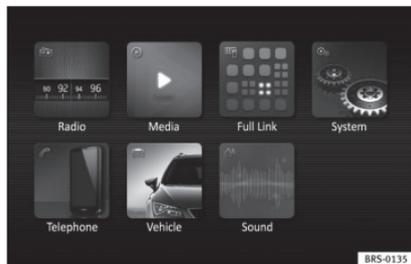

Fig. 80 Easy Connect: Main menu.
- Press the Infotainment button **MENU** /  and then the **Vehicle** » **Fig. 80** function button.